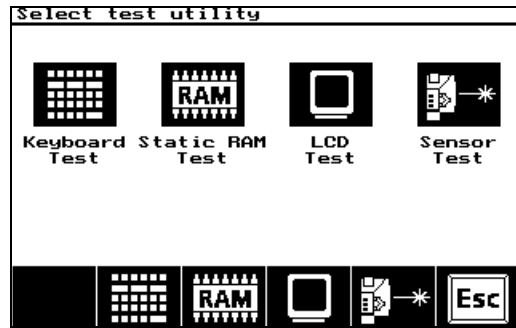

Figure 3
- Now press the Test Part 1  softkey. You should now see the screen in Figure 3.